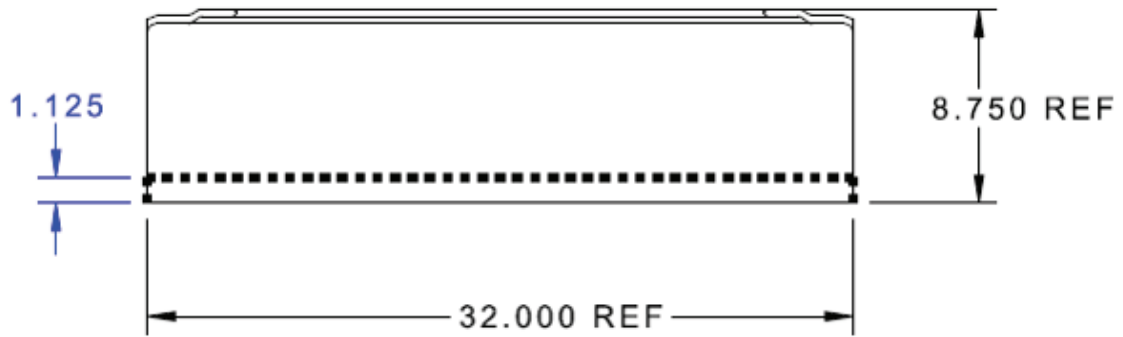

Figure 7. 40106536 installation
- Rear suspension installation should appear similar to Figure 7.